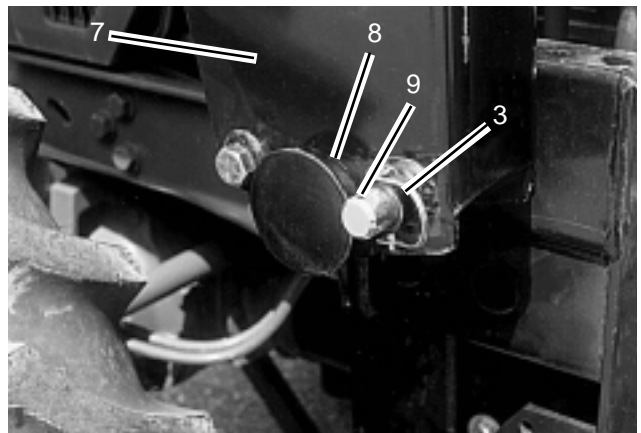

Figure 6
- (1) Hinge nut.
- (2) Hinge assembly.
- (3) Loader mounted snap pin position.
- (4) Hardened flatwasher.
- (5) Rear hinge pin.
- (6) Subframe bushing.
- (7) Subframe pedestal.
- (8) Center mounting bracket tubes. (Figure 6)
- (9) Rear hinge pin outer hole. (Figure 6)